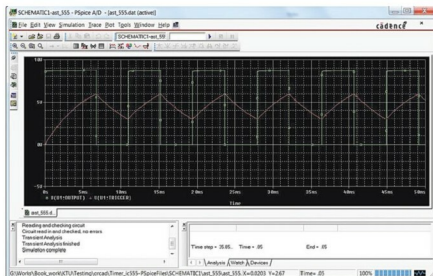

Fig. 16: Output window
10. Select Run option from PSpice menu and give sufficient inputs. This opens a new simulation window in which you can verify the signals at test points (Fig. 16).